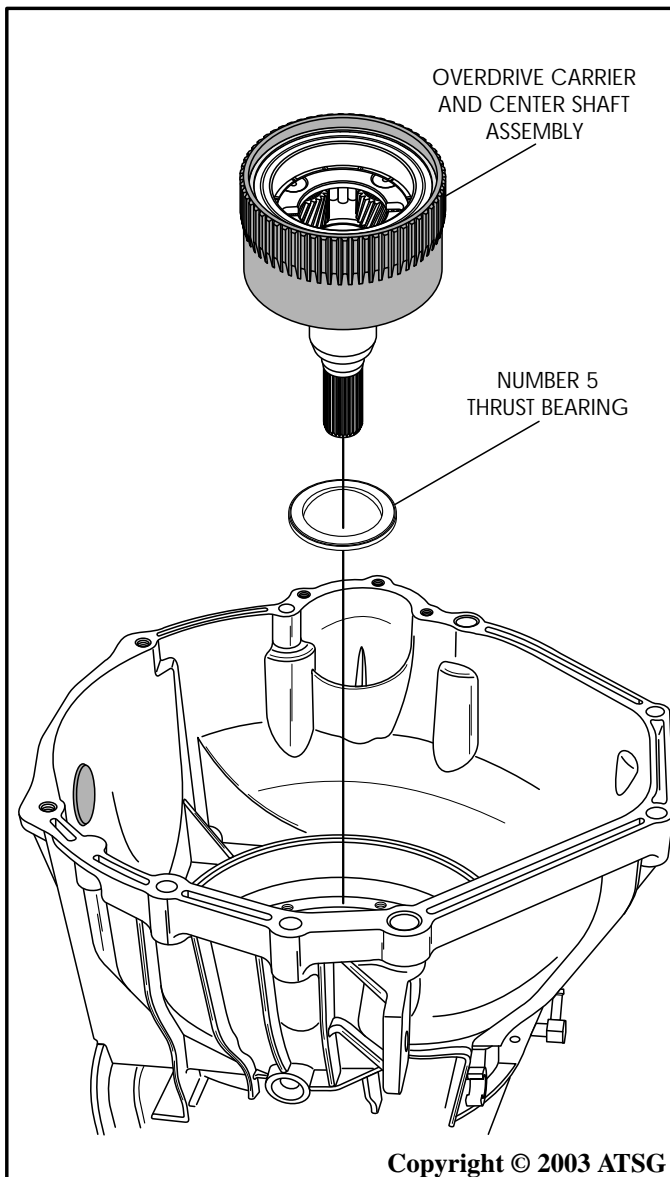

Figure 60
10. Remove the overdrive carrier and center shaft assembly, as shown in Figure 60, and set aside for the component rebuild section.
11. Remove the number 5 thrust bearing, as shown in Figure 60, which may be on center support.